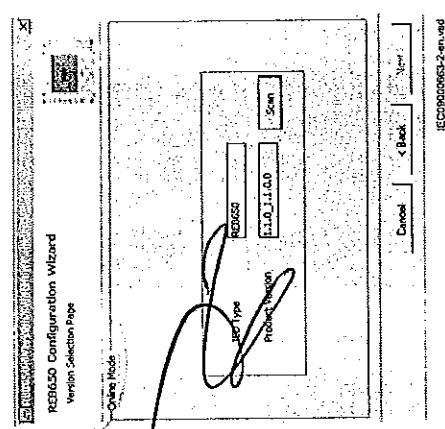

Figure 21: PCM600: IED Version detection
7. Click the Scan option to scan/read the IED Type and IED Version for the IED that is online, see Figure 21.